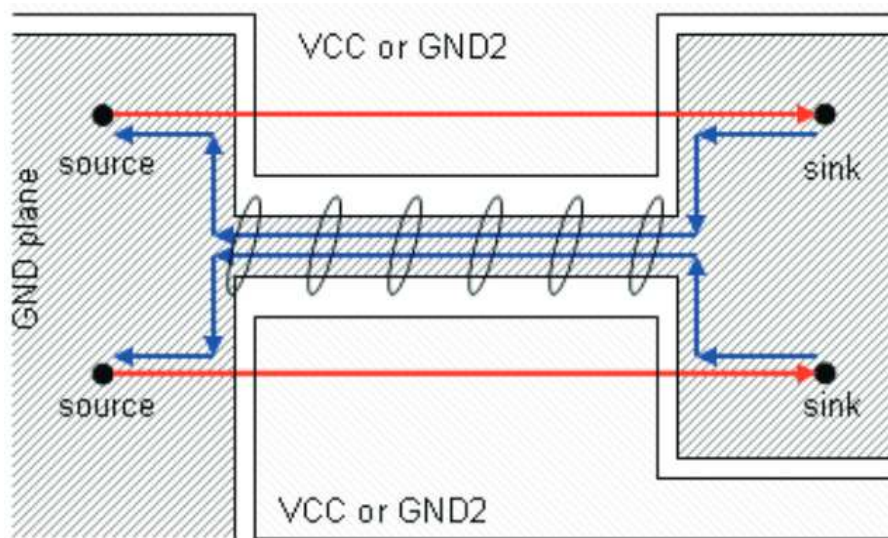

图 22. Crosstalk Induced by the Return Current Path
- With a proper signal routing, crosstalk also can arise in the return current path due to discontinuities in the ground plane. Always take care of the return current (图 22).
For 图 22, do not route a signal referenced to digital ground over analog ground and vice versa. The return current cannot take the direct way along the signal trace and so a loop area occurs. Furthermore, the signal induces noise, due to crosstalk (dotted red line) into the analog ground plane.